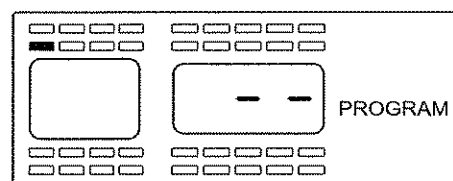

Figure 2-4
4. Using the arrow keys select the first tire position that you want to program. The selected wheel location will be solid. The other wheel positions will only be an outline. If sensors have already been programmed to the monitor, the only sensor locations that will be displayed will be the ones that do not have a sensor already programmed to it. When you have selected the position that you want to program a sensor to, press the **SET** button for 3 seconds. This will cause the first dash (see **Figure 2-4**) of a three-digit sensor number to blink that will need to be entered.